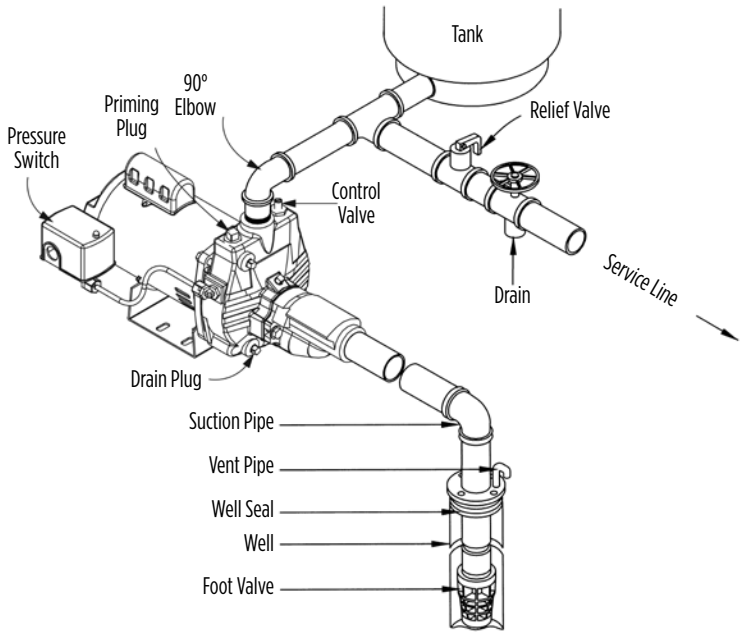
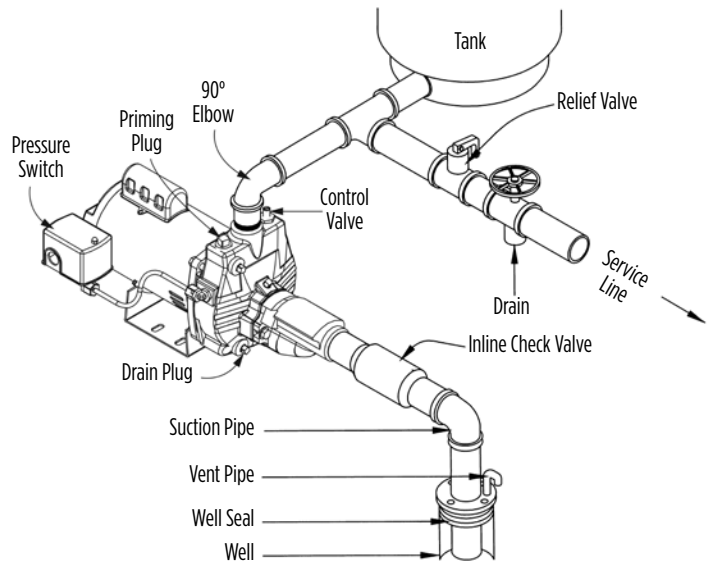

Fig. 9a - SHALLOW WELL
Fig. 9b - SHALLOW WELL
13. If a pressure gauge is supplied with the pump, or if you wish to install a pressure gauge, it should be installed into the 1/4" NPT hole on the front of the casing directly in front of the priming port (see **Typical Installations** Fig. 9a, 9b, 9c or 9d).
Shallow well installations use only a single pipe connecting the pump to the water supply. If your water table fluctuates and could reach pumping depths greater than 25 ft, follow the instructions for deep well applications. This pump can be used for drilled wells (see Fig. 9a) or driven wells (see Fig. 9b). Drilled wells are holes drilled into the ground by professional well drillers using a large rig. Driven wells use well points (also known as sand points), which is a long pointed tube with a screen that allows water to enter the pipe but keeps out sand and sediment. The injector assembly that comes with the pump is pre-assembled for use in wells down to 25 ft (7.6 m) and is installed **directly on the pump**.
3. There are two types of shallow well installations: drilled wells (see Fig. 9a) or driven wells (see Fig. 9b). Drilled wells are holes drilled into the ground by professional well drillers using a large rig. Driven wells use well points (also known as sand points), which is a long pointed tube with a screen that allows water to enter the pipe but keeps out sand and sediment. The water level in a driven well is fairly high or near ground level (maximum 30 ft [9.1 m]). Continue with the appropriate shallow well installation.
10. If a pressure gauge is supplied with the pump, or if you wish to install a pressure gauge, it should be installed into the 1/4" NPT hole on the front of the casing directly in front of the priming port (see **Typical Installations** Fig. 9a, 9b, 9c or 9d).
11. If a pressure gauge is supplied with the pump, or if you wish to install a pressure gauge, it should be installed into the 1/4" NPT hole on the front of the casing directly in front of the priming port (see **Typical Installations** Fig. 9a, 9b, 9c or 9d).